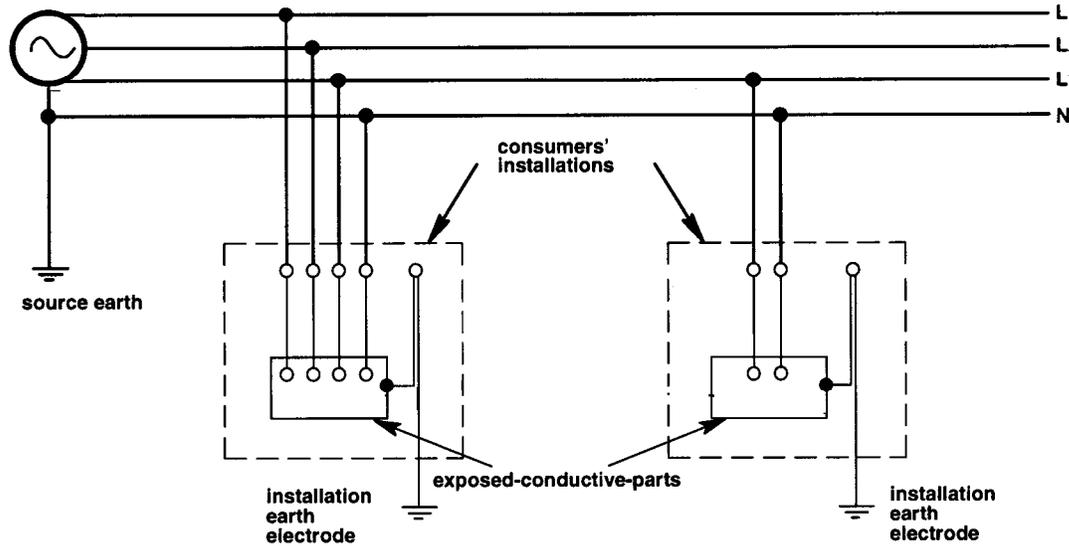

Figure A-4 – TT system
**TT system:** One pole of the supply system is connected to one or more electrodes buried in the ground. Local buried electrodes are used to 'earth' exposed conductive parts of a load installation. (Figure A-4)